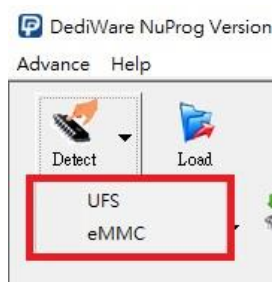
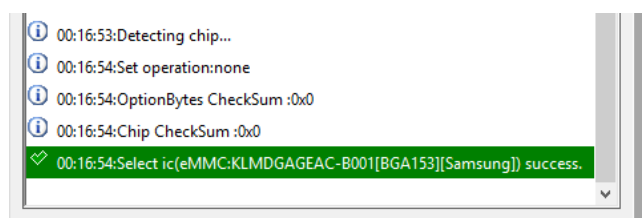
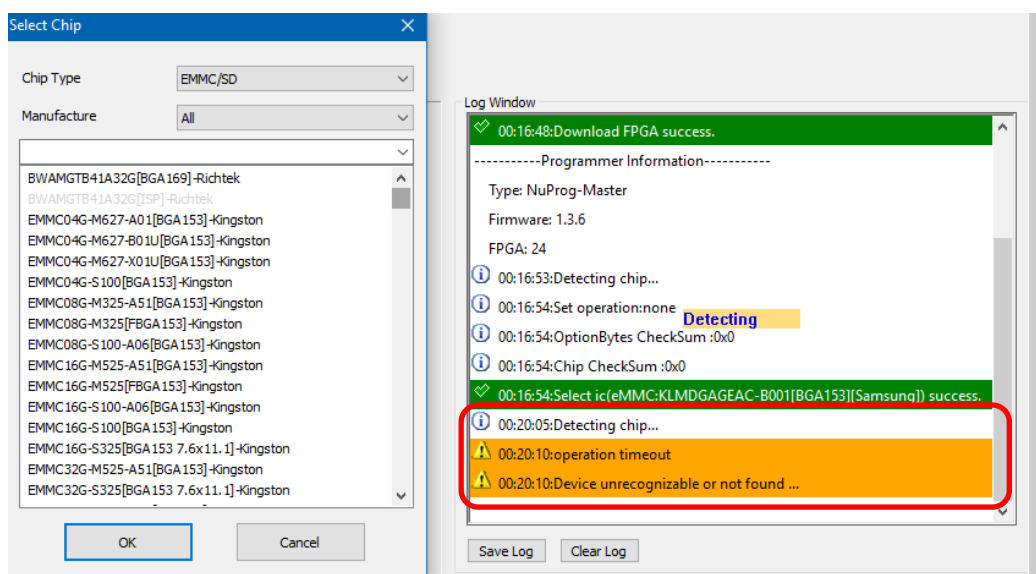

Fig. 5-56
Fig. 5-57
Fig. 5-58
- **Detect:** Choose the correct IC type to detect the IC (Fig. 5-56) or choose the model number manually. If the data list has the corresponding model number that is supported, software will automatically import the values of the eMMC and the Log will appear as below (Fig. 5-57). If the IC model number that you need is not listed (Fig. 5-58), please feel free to contact us.